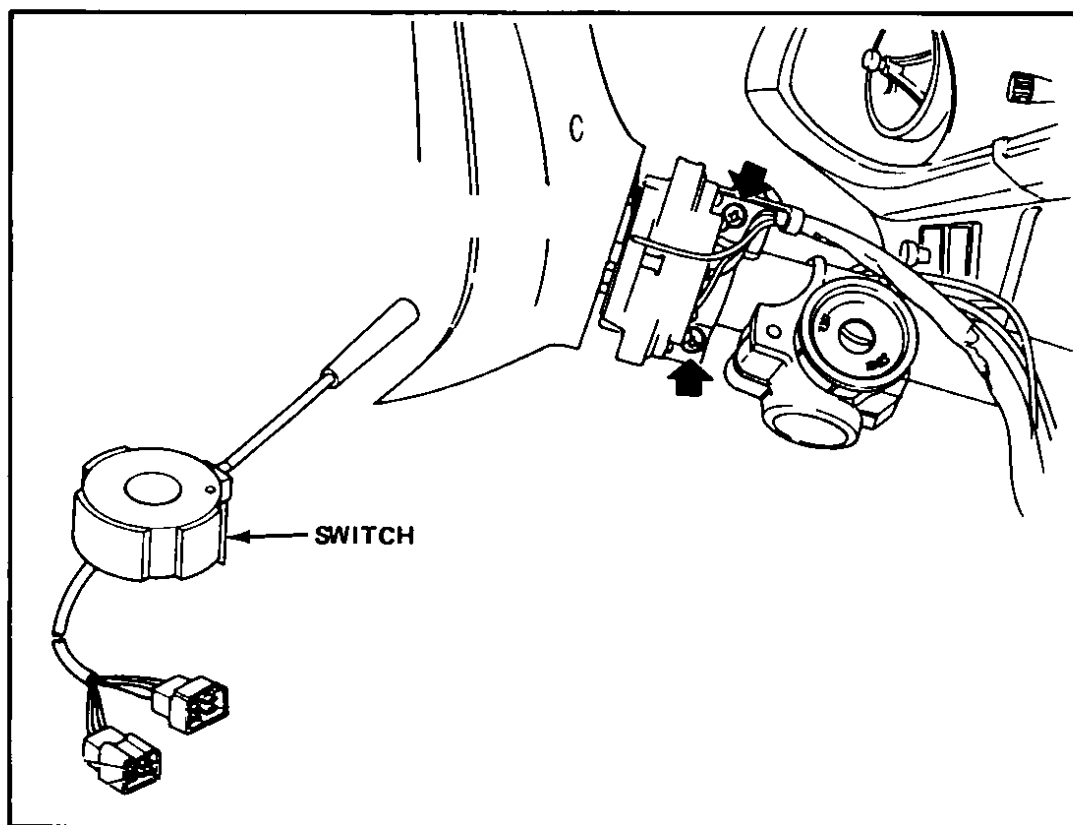

Fig. 94 Turn signal switch (typical)
- 6 Disconnect the combination switch at connectors, Fig 94